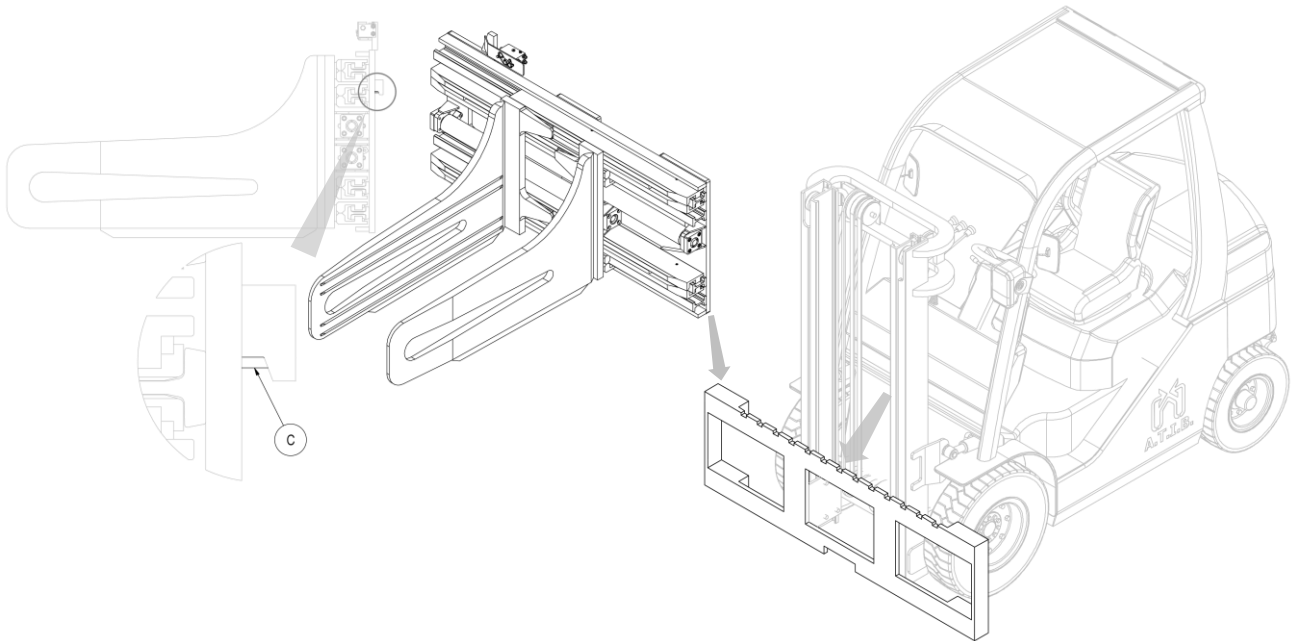

Figure 3
7. Then hook on the equipment using an overhead crane or hoist of sufficient capacity and position it on the fork carriage, taking care to fit centring pin C into the central notch on the fork carriage (see *Figure 3*).